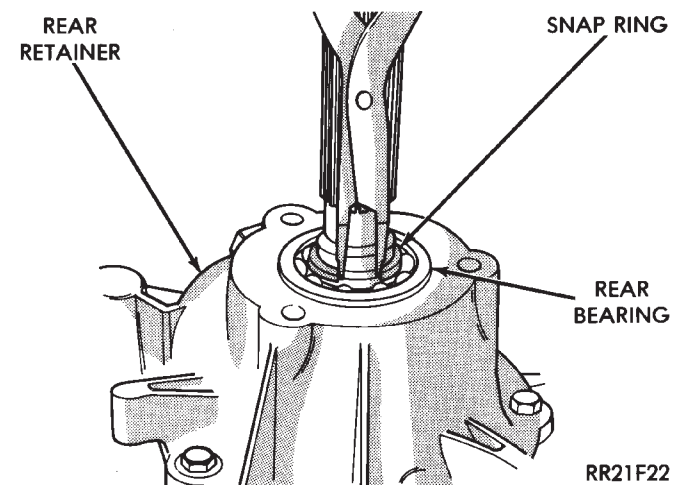

Fig. 63 Installing Rear Bearing Snap Ring
(51) Apply 3 mm (1/8 in.) wide bead of Mopar gasket maker, silicone adhesive sealer, or Loctite 518 to flange surface of rear retainer.
(52) Install locating dowel in rear retainer and install retainer on case. Tighten retainer bolts to 24 N·m (18 ft. lbs.) torque.
(53) Install new rear bearing snap ring (Fig. 63). Lift mainshaft slightly to seat snap ring in shaft groove.